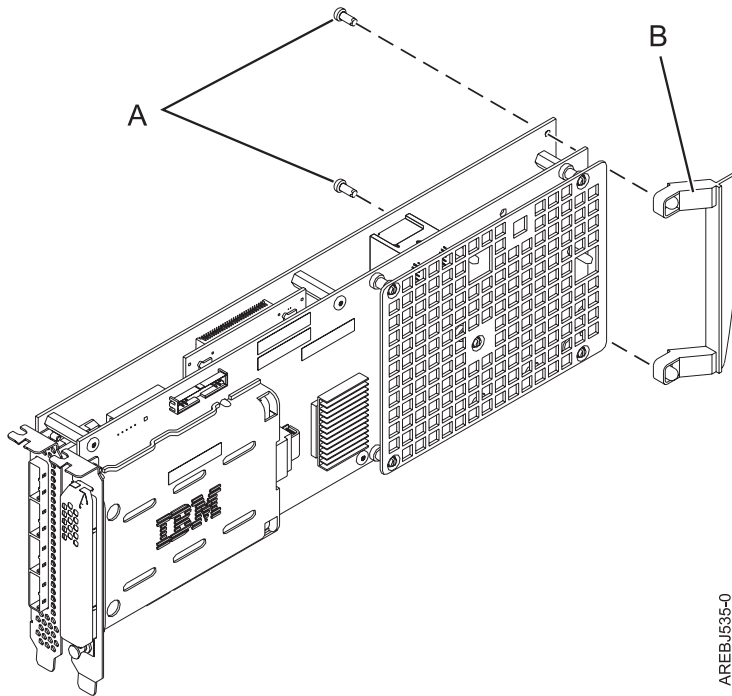

Figure 42. Cassette adapter handle attachment
- a. Remove the adapter handle **B** as shown in Figure 42.